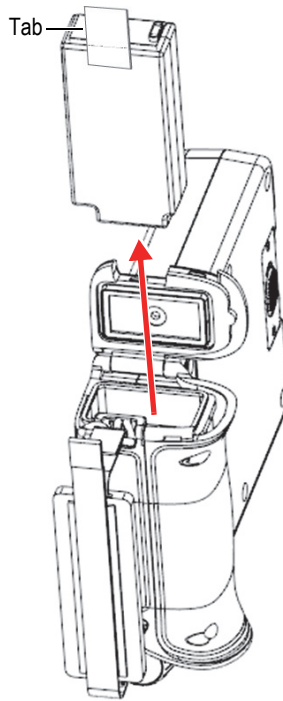

Figure 4-3 Battery removal
4. Grasp the tab on the battery and pull it up to release and remove the battery (see Figure 4-3 on page 47).